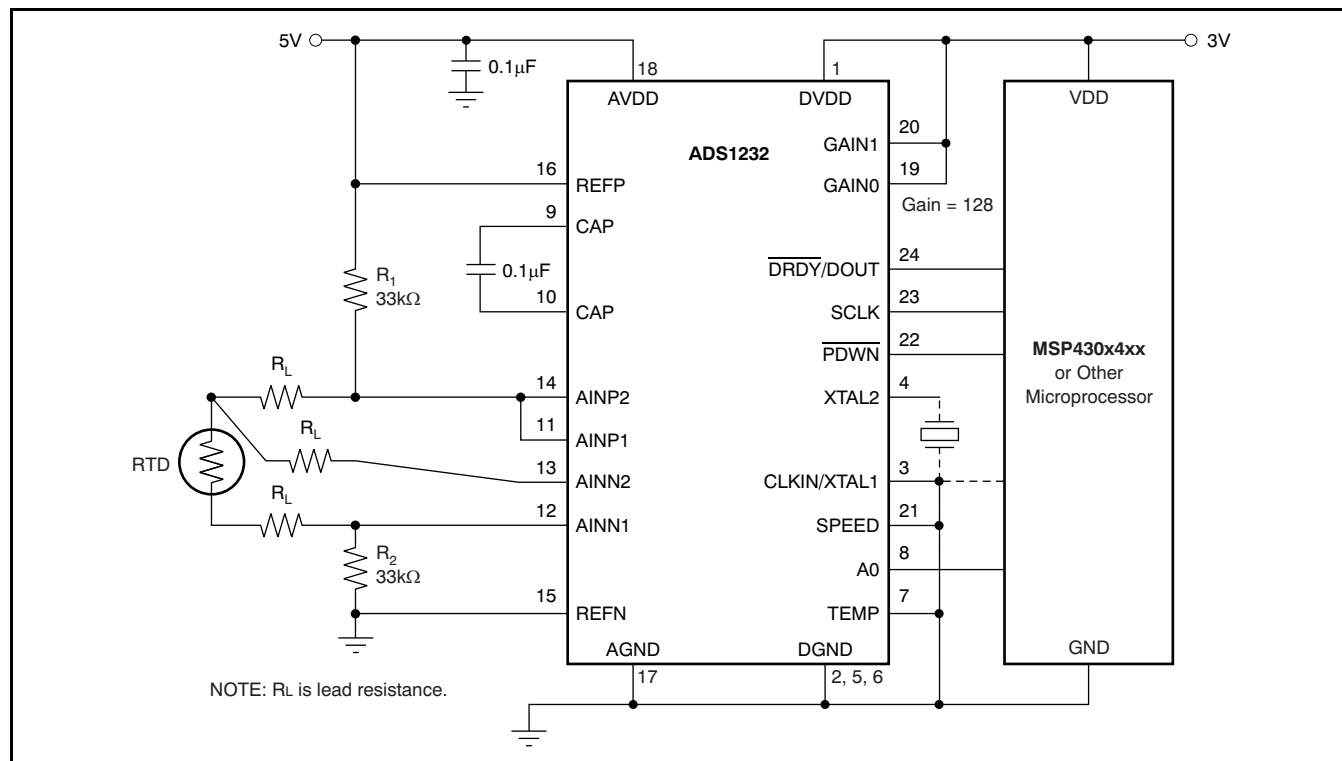

Figure 45. Style 2 (Three-Wire) RTD Schematic
Figure 45 shows a typical schematic for a style 2 (three-wire) RTD application. R_1 and R_2 are used to excite the RTD as well as establish the common-mode voltage of the ADS1232 PGA.
- Changed Figure 45 27